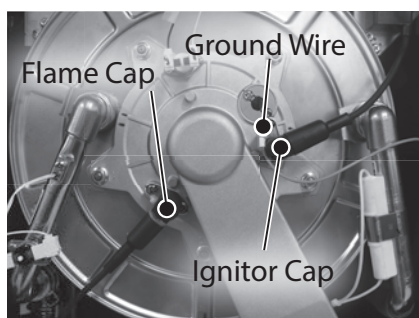

Figure 141 - Remove ignitor rod and flame sensor caps
- 30** Locate the flame sensor and ignitor rod on the burner assembly as shown in Figure 141 (following page). Remove the caps from flame sensor and ignitor rod. **DO NOT** pull wires. Disconnect the green ground wire from the ignitor rod assembly.